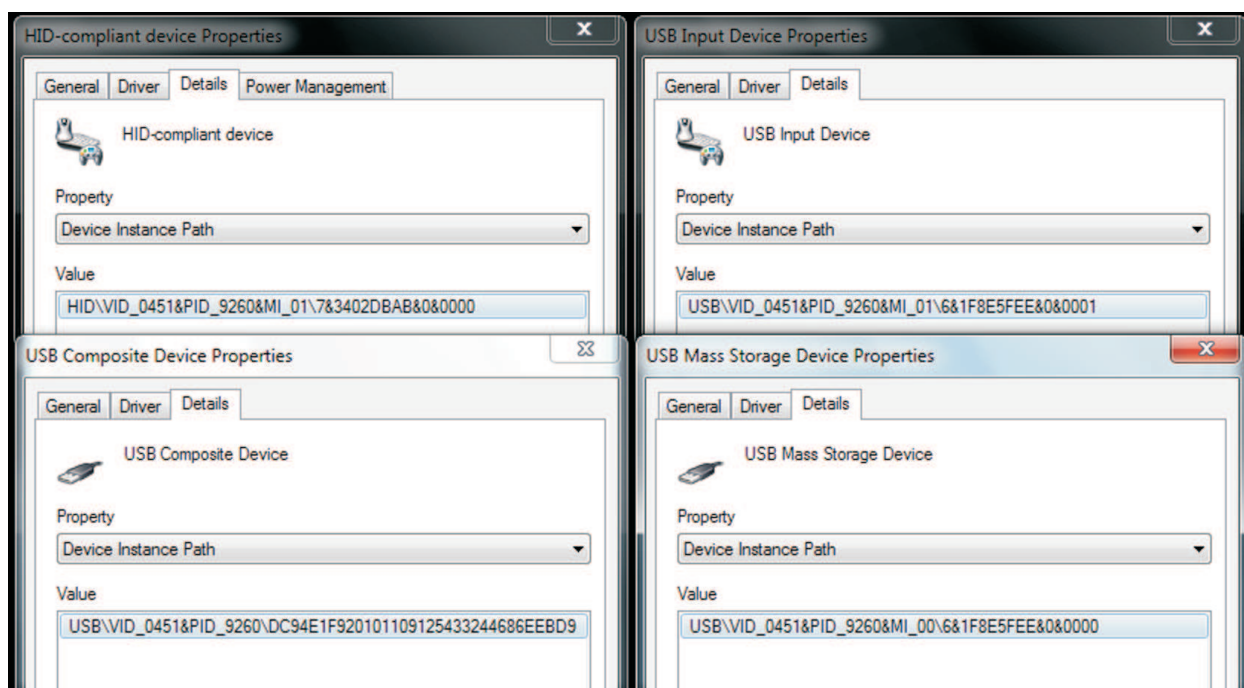

Figure 2-9. Instance Properties With FW Containing HID Interface
2. Instance properties for a TUSB9260/TUSB9261 EVM board with previously burned FW in the SPI Flash containing TI's predetermined HID instances and functions (see Figure 2-9).